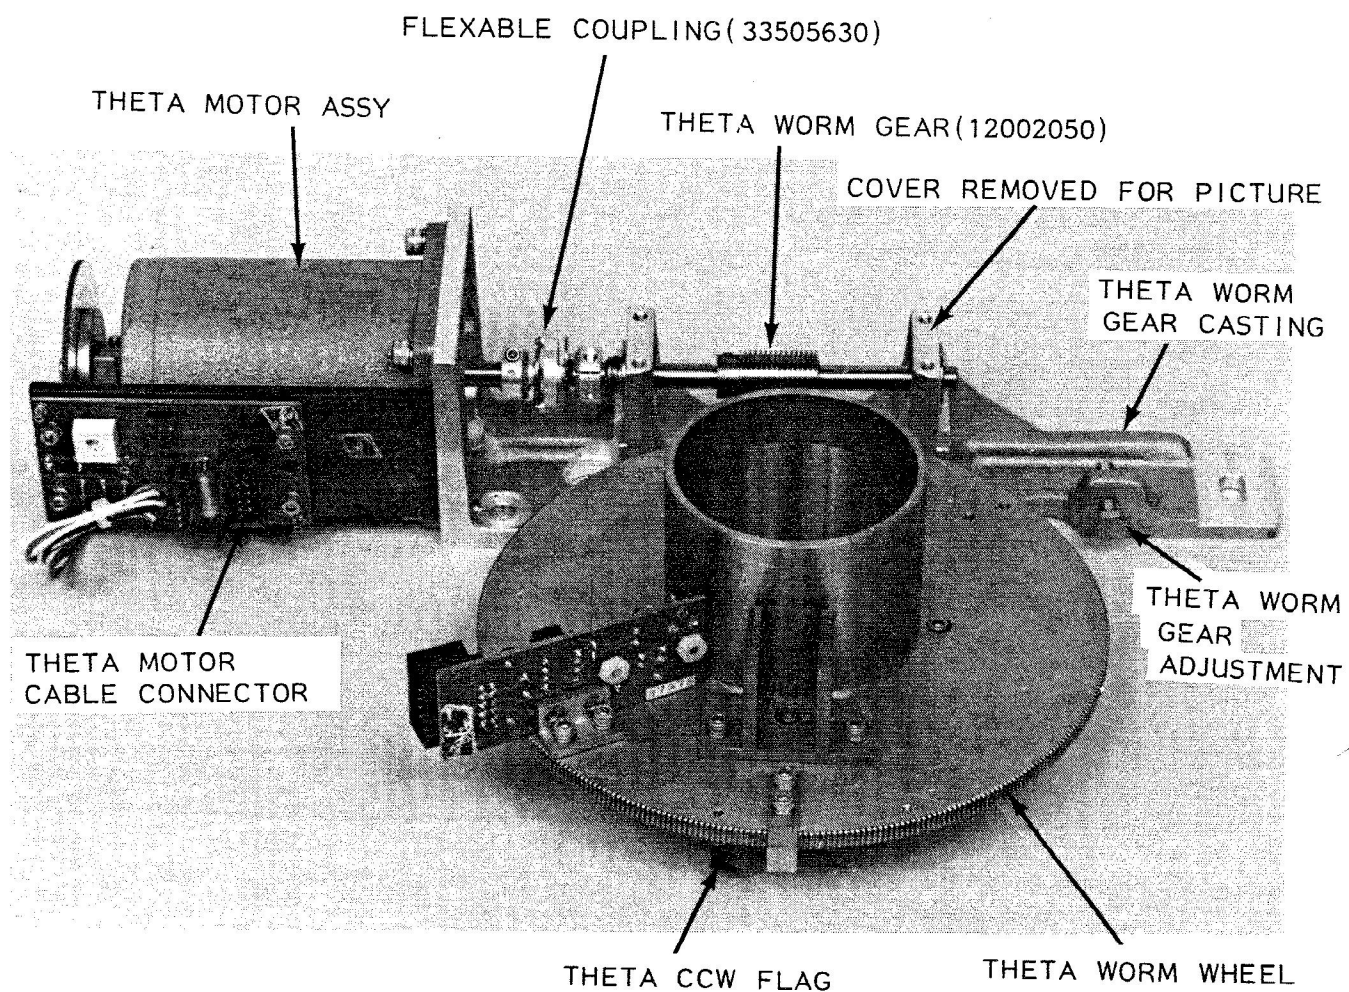

FIGURE 2-12
B. "Theta" Worm Drive Assembly Description (Fig. 2-12)